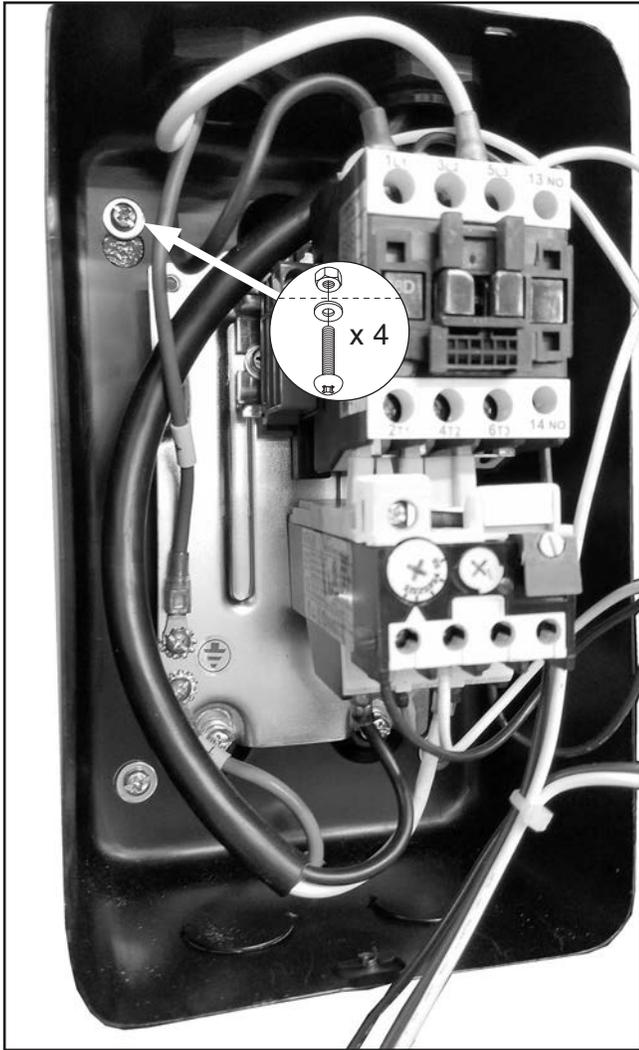

Figure 34. Inside magnetic switch box.
49. Remove (4) Phillips head screws, flat washers, and hex nuts shown in **Figure 34** to remove magnetic switch from switch bracket.